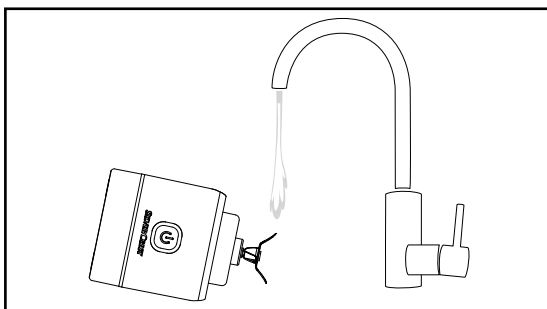

Fig. 2
- Rinse only the cross blade **5** carefully, if necessary using a scrub brush, under running water. Make sure that no water flows onto the motor unit **9**, and do not immerse the appliance in water! Tilt the appliance so that only the cross blade **5** is in the water jet (see Fig. 2). Cleaning the appliance immediately after use helps to loosen food remains more easily.